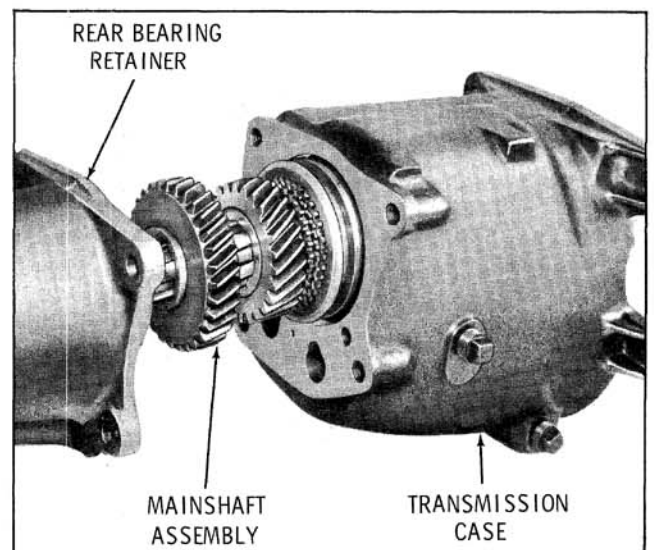

Fig. 7-37 Removing Rear Bearing Retainer and Mainshaft
6. Lower countergear into bottom of case. Then remove rear bearing retainer, gasket and mainshaft assembly from the transmission case. (Fig. 7-37)